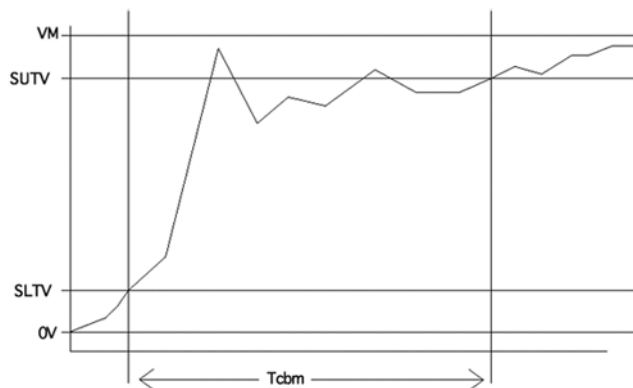

FIG. 2 Contact Bounce on Switch Make
3.1.3 *contact bounce time (make)*,  $T_{CBM}$ —the time period measured from the first instant  $V_M$  is equal to the SLTV until it constantly remains above the SUTV after the last instant it falls below the SLTV. If  $V_M$  does not fall below SLTV during the time interval,  $T_{CBM} = 0$ , (see Fig. 2).
7.2.2 Record  $T_{CBM}$  (see Fig. 2) from oscilloscope display.